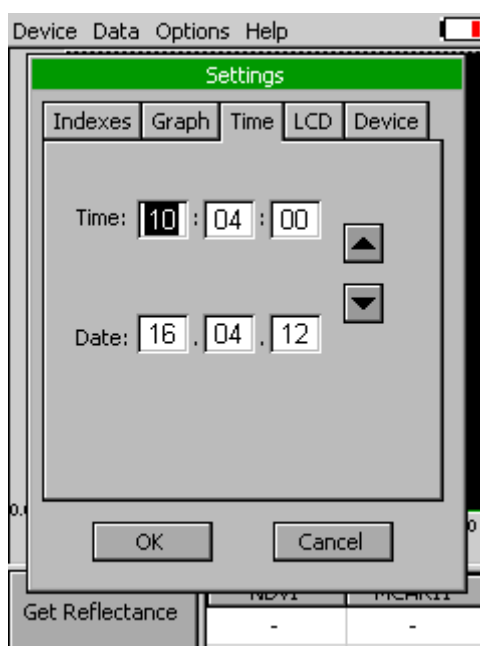

Fig. 12 Time setting
- **Time** - Set the actual time and date (all data files are stored by time and date signature). To change time, touch on one of the values and adjust it using the arrows (Fig. 12).